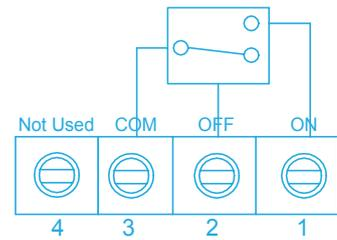

Fig. 3
4. Carefully remove the plastic terminal cover. Terminate the cables into the terminal block ensuring correct polarity is observed (See Fig. 3 Wiring Diagram). Re-position the plastic terminal cover and screw into place.